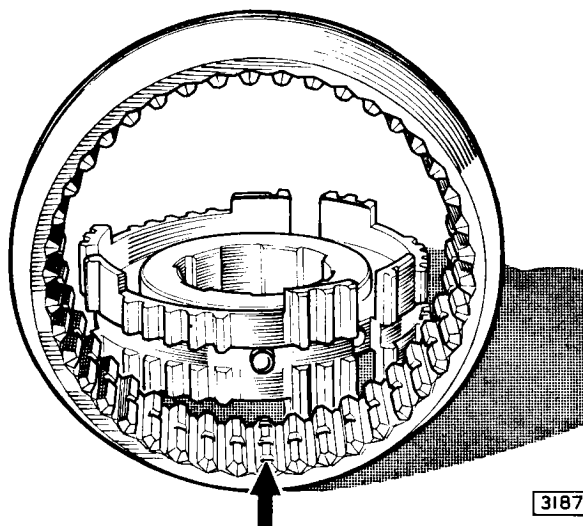

Fig. 10. Fitting the synchro hub in the sleeve.
- (ii) The three ball and springs in line with the teeth having three detent grooves (see Fig. 10).